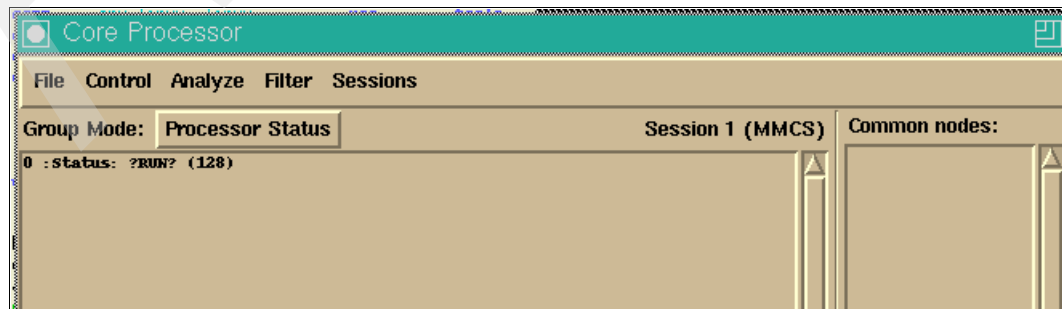

Figure 10-3 Processors in Run status
3. Then click **Attach**. At this point, you have not yet affected the state of the processors. Choose **Select Grouping Mode**  $\varnothing$  **Processor Status**. Notice the text in the upper-left pane (Figure 10-3). The Coreprocessor tool posts the status *?RUN?* because it does not yet know the state of the processors. The number *128* is the number of nodes in the block that are in that state. The number in parenthesis always indicates the number of nodes that share whatever attribute is displayed on the line (the processor state in this case).